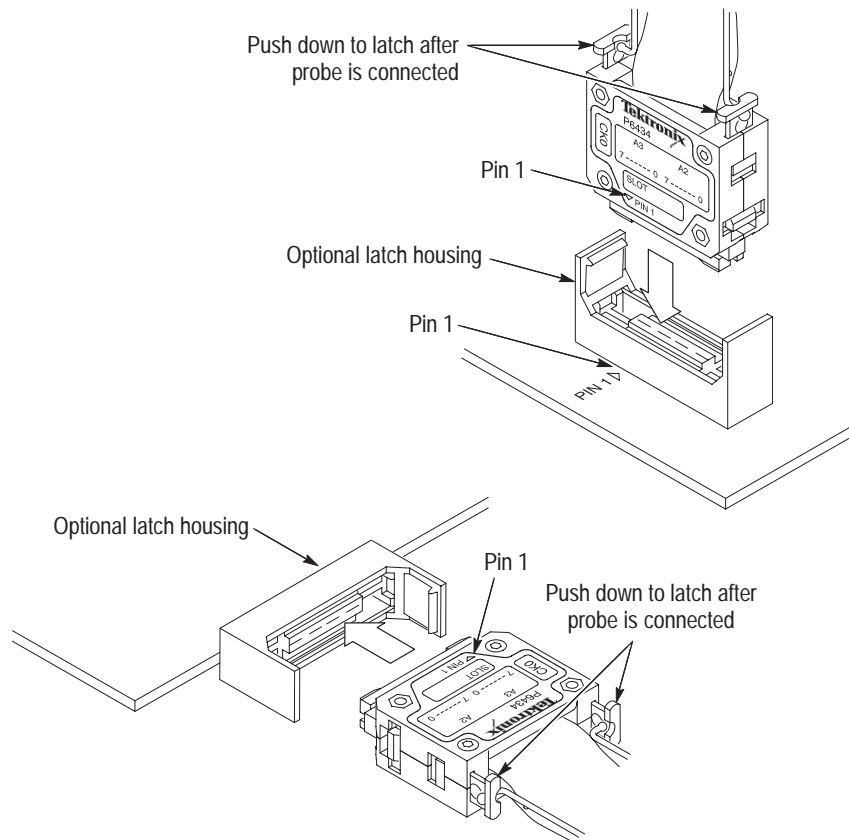

Figure 3: Connecting to a surface- or straddle-mounted connector
2. Position the probe tip perpendicular to the mating connector, and gently connect the probe as shown in Figure 3.